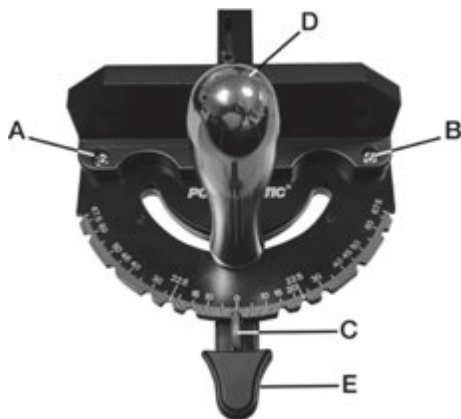

Figure 35C
2. Loosen screws A and B as shown in Figure 35C.
Adjusting Miter Gauge Angle for Operations (model model PM1800BT/B-3T, PM2013BT/B-3T, and PM2415BT/B-3T, refer to figure 35C):